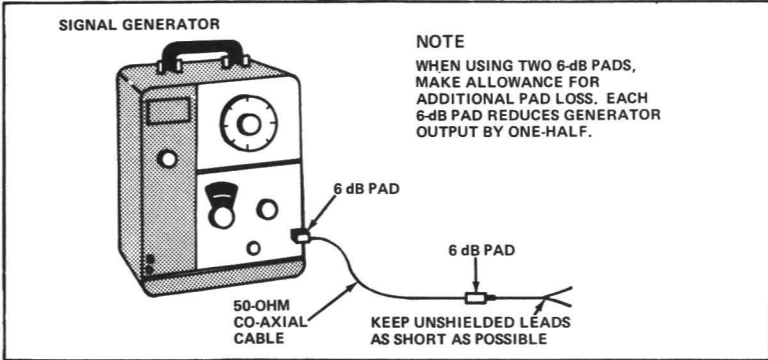
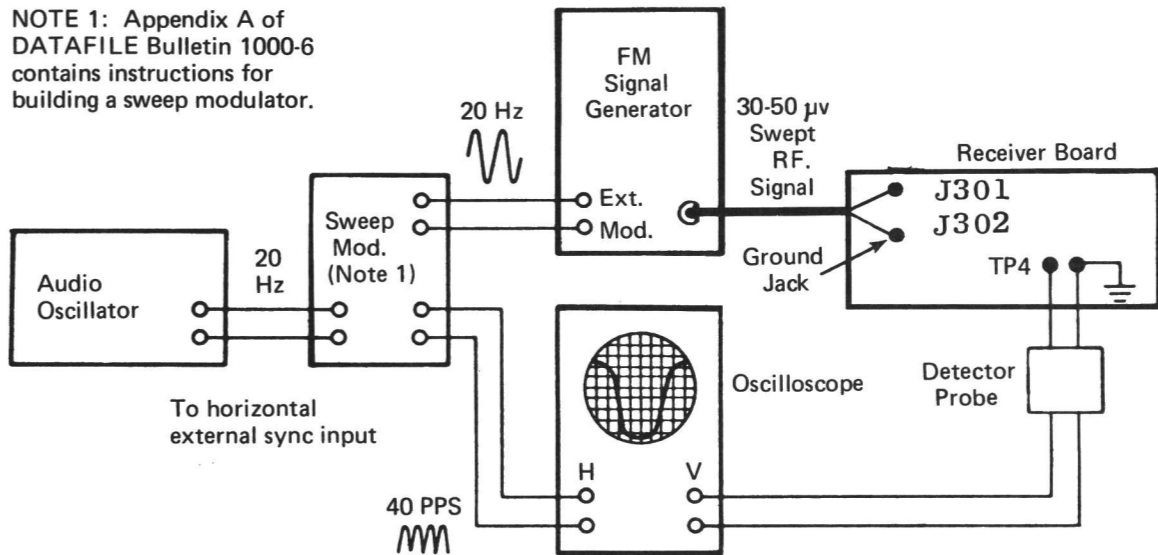

Figure 9 - Signal Generator Setup
Figure 10 - Test Setup for 20-Hz Double-Trace Sweep Alignment
- 3. Disconnect the lead of C301 from E2 (see Figure 9). The recommended signal generator setup is shown in Figure 10.
- 3. If Test Fixture Model 4EX17A10 is used, connect the signal generator to the Text Fixture antenna connector. If the Test Fixture is not used, connect the signal generator high to J301 and the signal generator low to ground jack J302. The recommended signal generator set-up is shown in Figure 10.